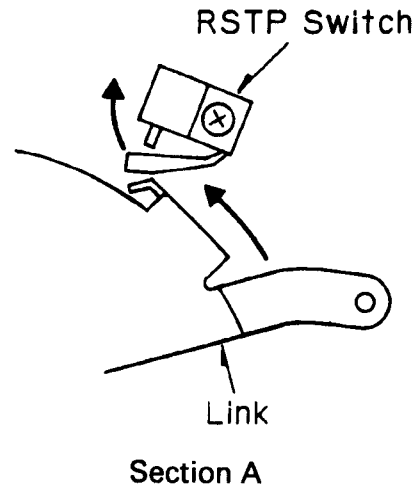

Fig.36
2. The highest stage is not detected by photo-transistor, but is rather detected when the RSTP switch is tripped. The magazine eject position is detected by the photo-transistor detecting the position of hole in the link when the steer moves. (Fig. 36)